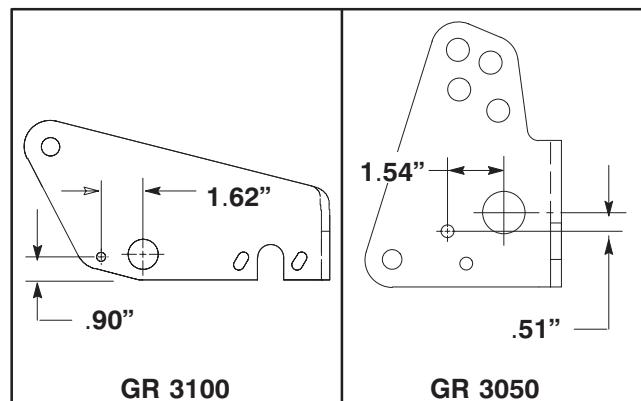

Figure 9
A. Using dimensions shown in figure 9, locate and scribe a line on appropriate frame member.